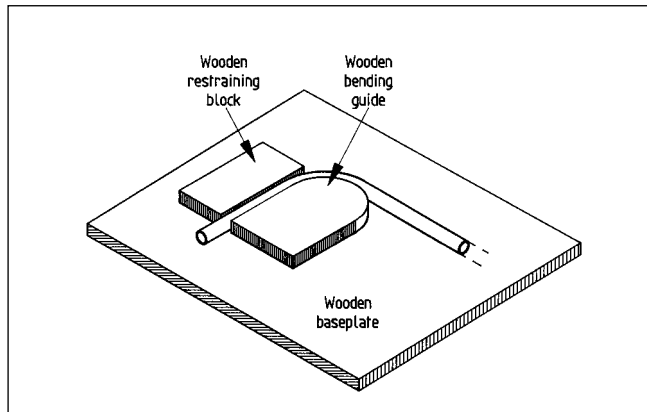

Fig 26.21: Tube or rod bending set-up
- Always bend round a former shaped to the required radius (Fig 26.21).